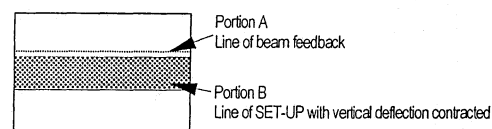

Fig. 4-10-2 Status of SET UP
As this monitor uses a beam feedback clamp method to detect and clamp beam current so as to stabilize the black level for a long period of time, it displays one line (portion A shown in Fig. 4-10-2) on the upper part of CRT.
When BACKGROUND is lowered to such a degree that portion B of Fig. 4-10-2 disappears, the line in portion A will also disappear, making it impossible to detect beam current. Consequently, only the image of such lowered color will disappear.
- Turn on SET-UP switch in the drawer panel, and set to the status shown in Fig. 4-10-2.
④ Setting of Contrast